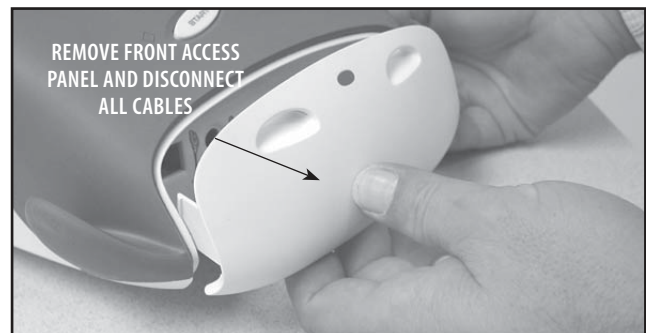

FIGURE 6.2
4. Remove the Front Access Panel and disconnect all existing cables and Lead Wires. **See Figure 6.2.**